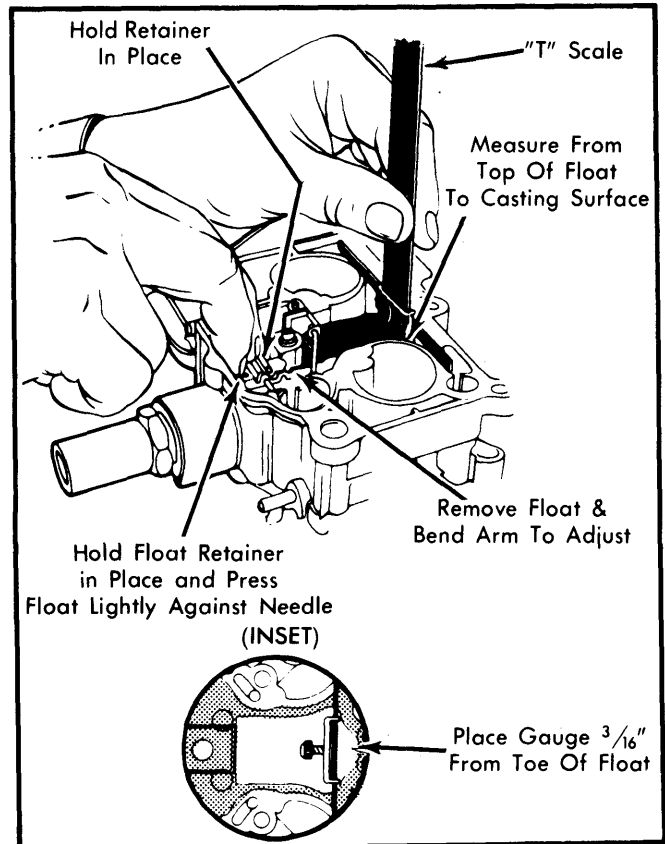

Fig. 2 Adjusting Float Level
- 1) Remove air horn and gasket from float bowl. Hold float retainer firmly down. See Fig. 2.